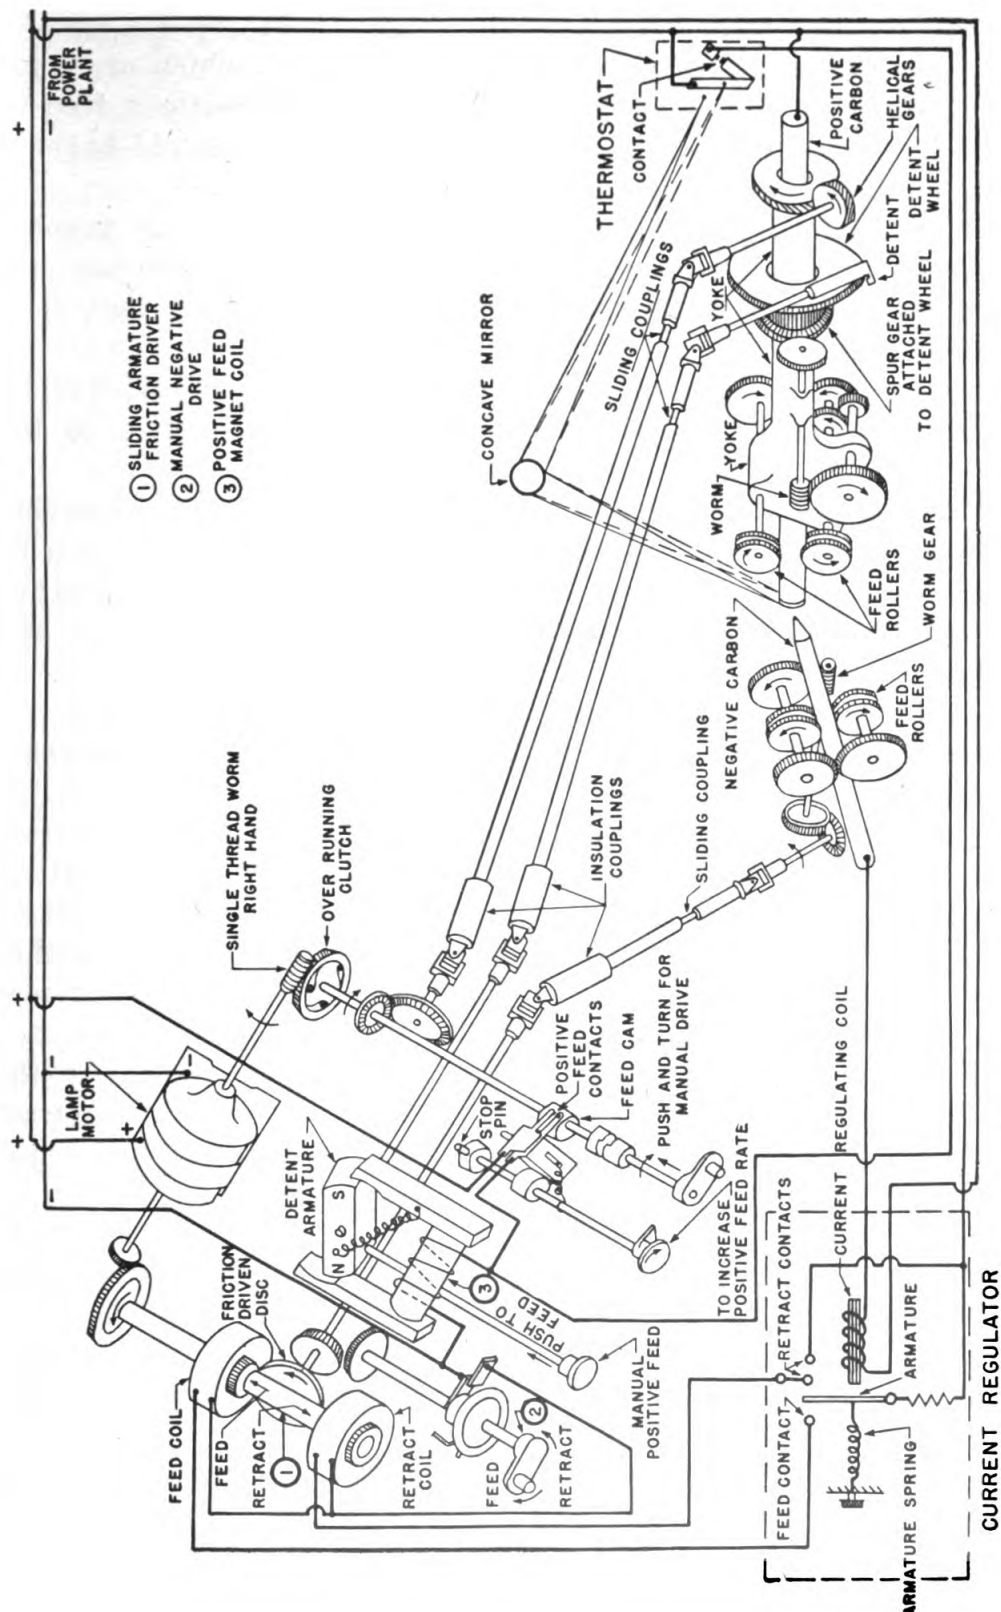

FIGURE 121.—Schematic diagram of General Electric lamp control mechanism and lamp mechanism.
(1) *Positive feed*.—See figure 121. The lamp motor, through a set of gearing and shafts, drives a helical gear on the positive head, which transmits a constant rotary motion to the yoke and positive carbon. When the detent is not engaged with the detent gear, the entire assembly, including the spur gear, rotates with the yoke. When the detent is engaged with the detent gear, the spur gear attached to the detent wheel is kept from rotating, causing the outside gear to rotate around the attached spur gear, thereby causing the feed rollers, through a worm drive, to feed the positive carbon forward.